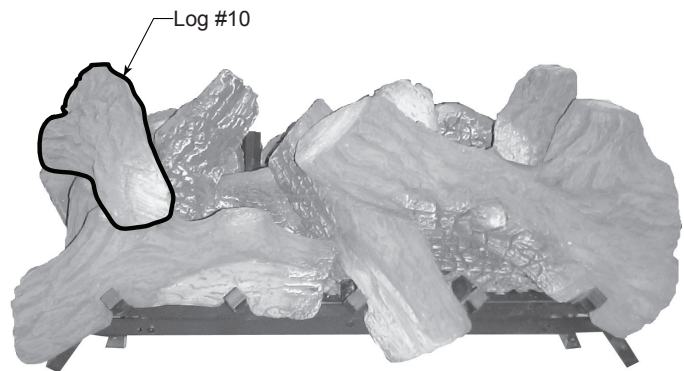

Figure 5.10 - Place Log #10
- Place log #10 by aligning two (2) rectangular notches on bottom of log with rectangular protrusions on logs #6 & #7. Make sure the ember or 'burnt' area of log is facing center of burner. *Figure 5.10*